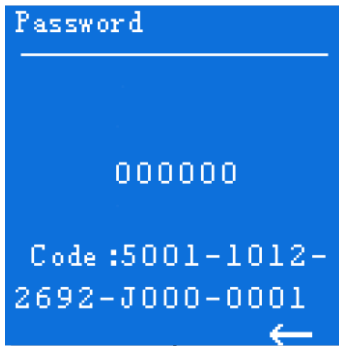

Figure4-15 Password input page
In the Settings management page, select "Permission" option to enter the password entry page first, as shown in Figure4-15.
2. The way for obtain the trial period password: after the service provider agrees, report the series number on the password input page (as shown in Figure4-15), then you can obtain the corresponding passwords.